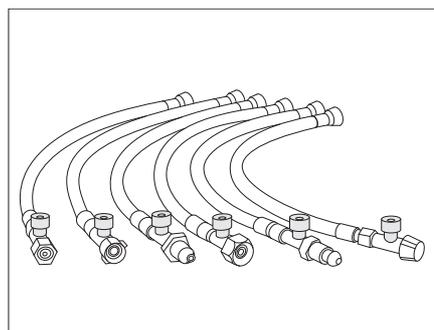

Fig. 93 High-pressure hoses with hose break guard (country-specific variants)
- Firmly press the green button at the high-pressure hose (Fig. 93).